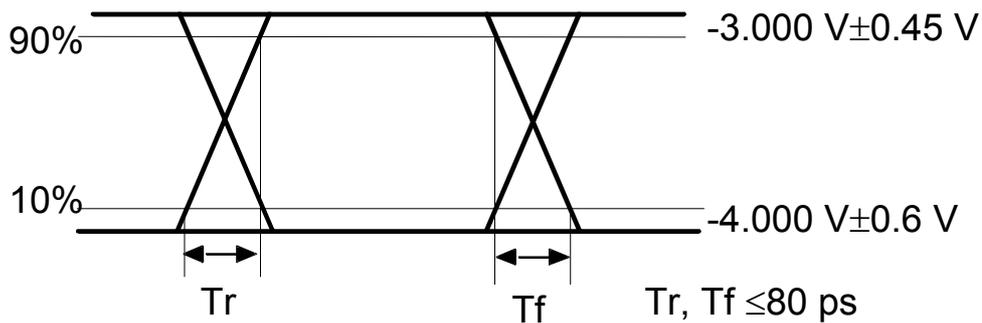

Fig. 8-10 Specifications of data output waveform (VAR part1)
5. To display waveform, connect all connectors according to Fig. 8-8. Confirm that the level of both waveform is in the range shown as Fig. 8-10 and rise/fall time is 80 ps or less.